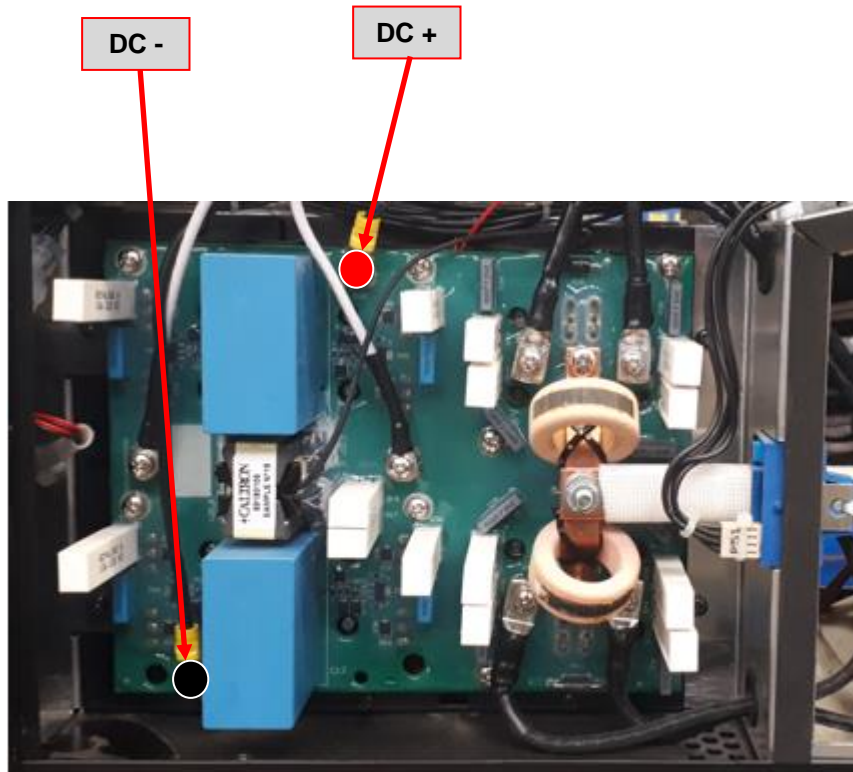

Figure 1
4. Locate the two terminals **DC+** and **DC -** on the Switch Board on the right side of the machine (**See Figure 1**).